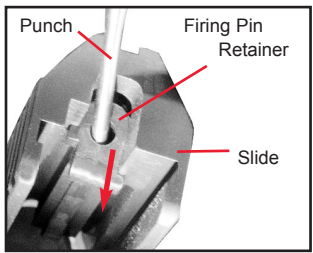

Figure 21
12. Remove the Firing Pin (FP) Assembly from the rear of the Slide by first pushing the Firing Pin Assembly inward with a punch while slowly sliding the Firing Pin Retainer downward until it is clear of the Slide. See Figure 21.